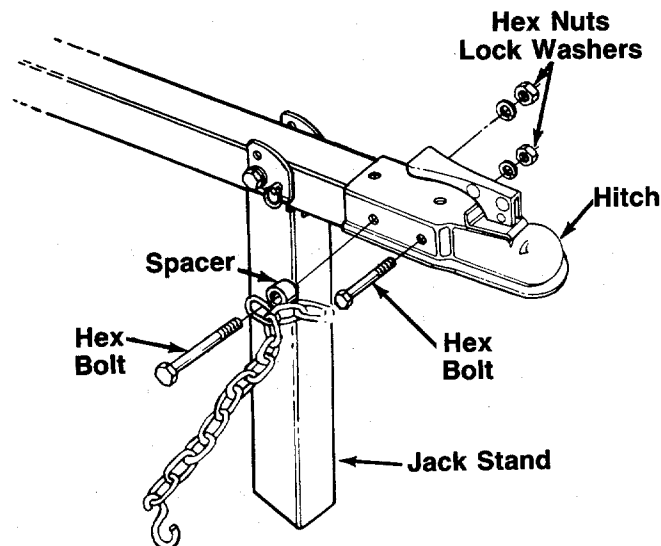

FIGURE 5.
- Place the hitch in position on the end of the tongue. Secure with hardware just removed. See figure 5.